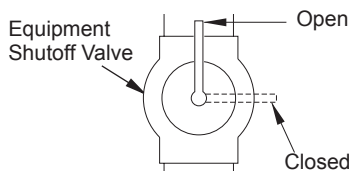

Figure 16 - Equipment Shutoff Valve
1. Close equipment shutoff valve (see Figure 16).
1. Open equipment shutoff valve (see Figure 16, page 15).